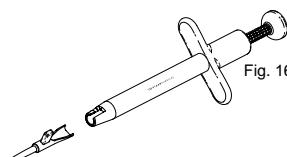

Fig. 16
1. Slide the Cartridge into the front of the Injector and snap lock the vertical tab into position. (Fig. 16 & 17)